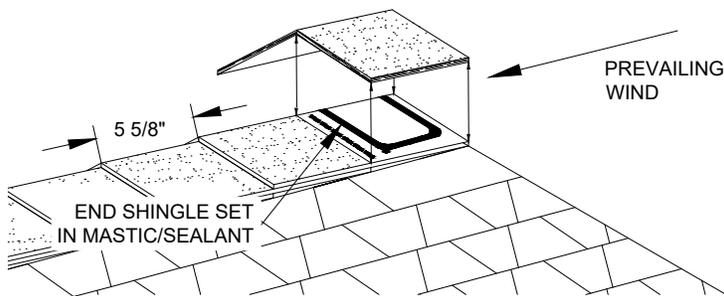

Figure 23 - Installation of RidgeFlex® Shingles; End Cap Set in Mastic
Should adverse conditions exist (like high winds), the end cap can also be face-nailed. Place two (2) nails on each side, 1" (25 mm) back from each end, and 1" (25 mm) up from the sides. Cover the nailheads with a dab of sealant. (See Figure 23)